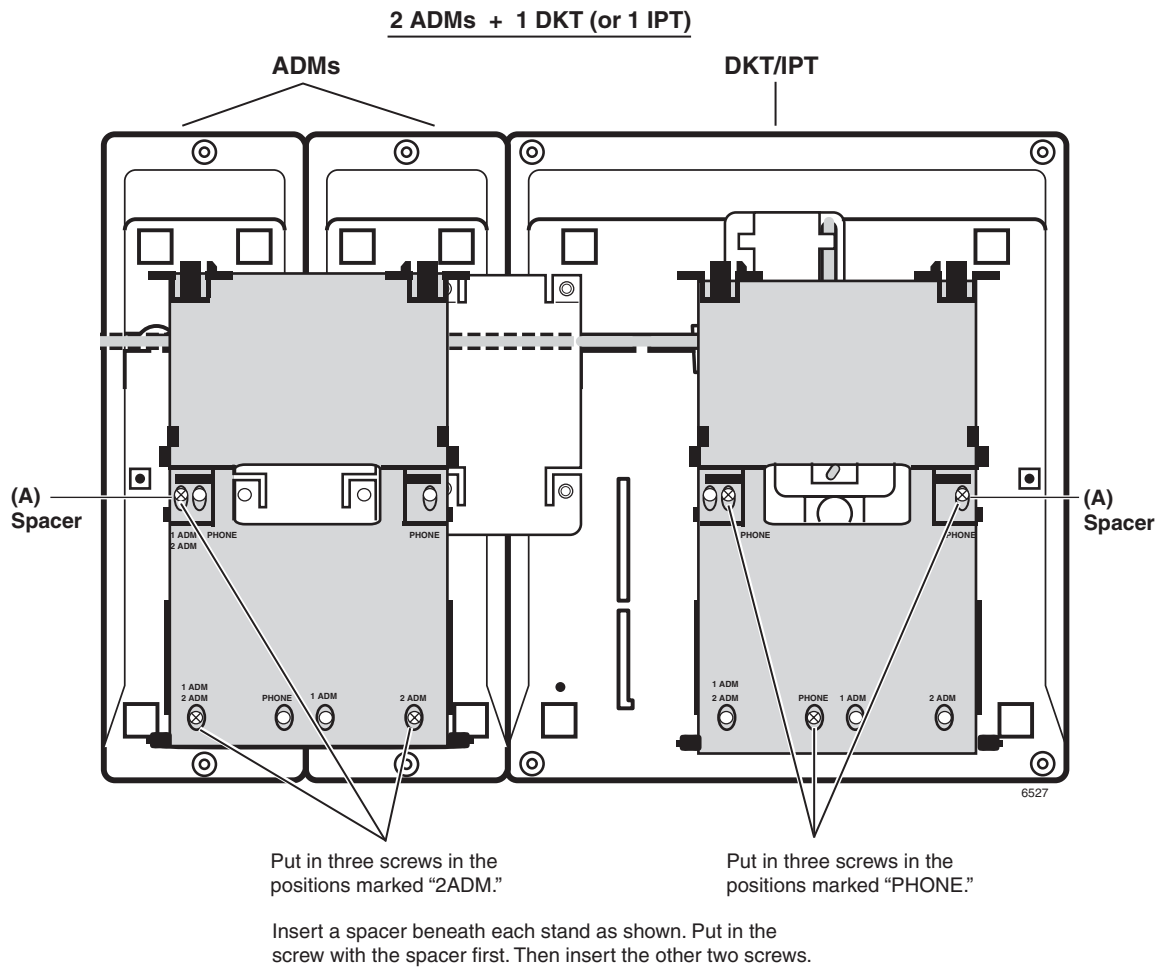

Figure 11-22 Attach Tilt Stands to DKT/IPT with Two ADMs
4. Place the spacers on the outer holes, as shown (see Figure 11-22).